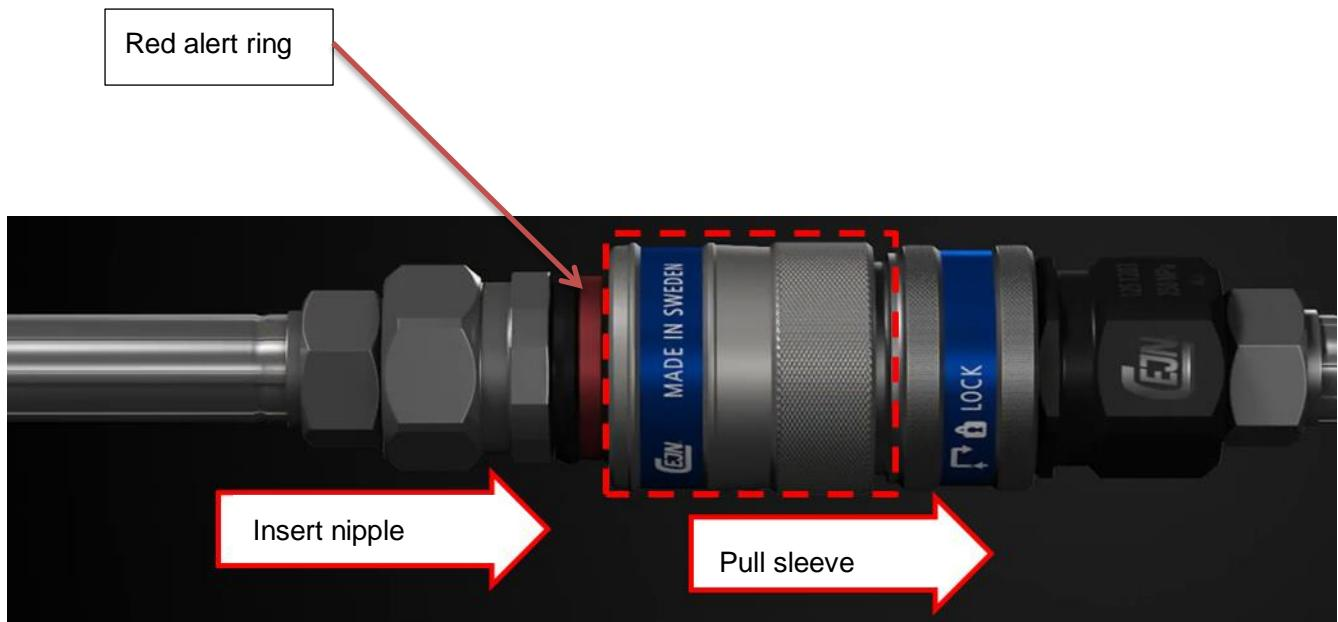
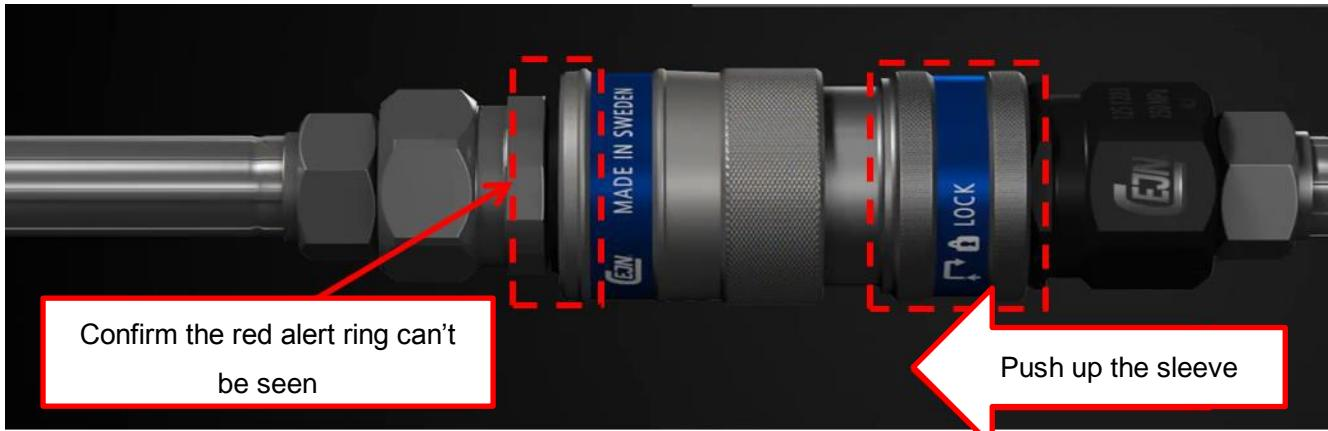
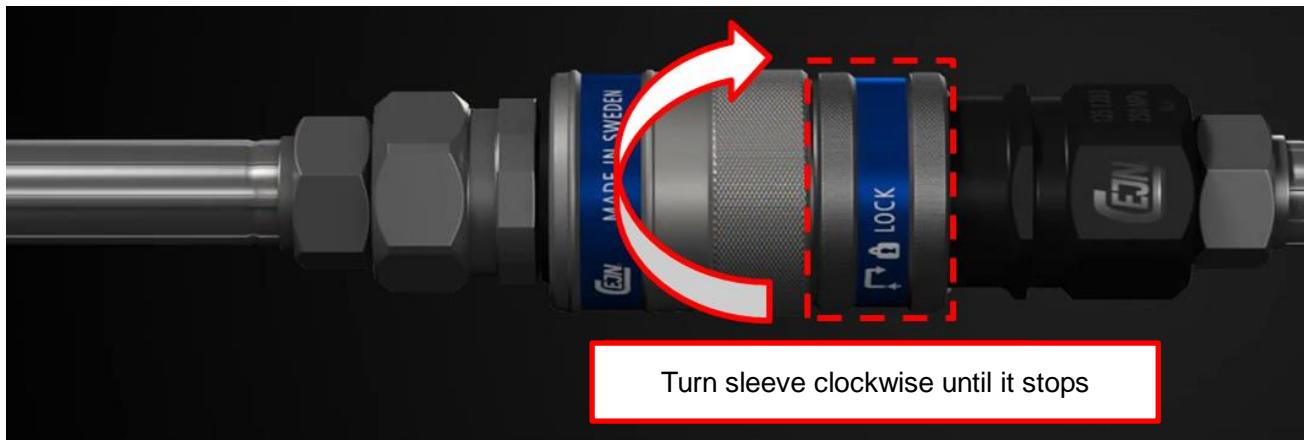

Fig. 2 Insert the nipple
Fig. 3 Connected position, before safety locking
Fig. 4 Connected position, with safety lock
1. As before, connect the nipple by pulling the sleeve as shown in (Fig. 2) from the disconnected position (Fig. 1). After inserting the nipple, release the sleeve and make sure that the red alert ring cannot be seen on coupling as shown in (Fig. 3).
2. After confirming the connection (Fig. 3), be sure to enable bayonet type safety lock. As for the method, push up the lock sleeve, and just turn the lock sleeve **clockwise until it stops** as shown in (Fig. 4). And then you release the lock sleeve, the lock sleeve will automatically lower and lock it.